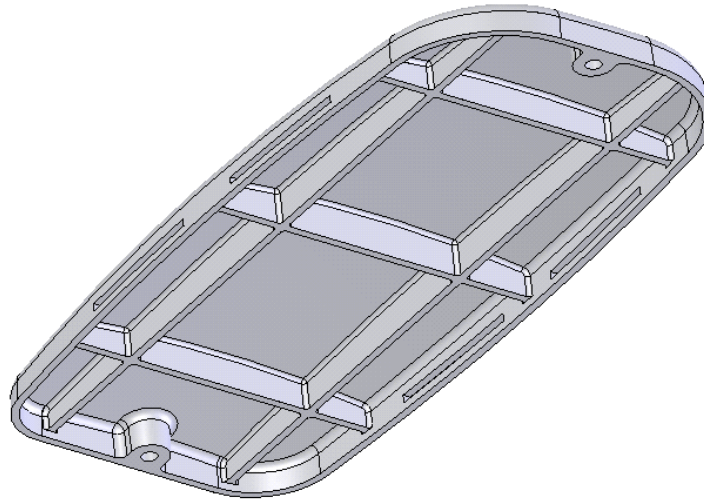

Figure 17-58 Model of the Cover
- Create a new SolidWorks document in the **Part** mode and using the standard modeling tools, create the model of the Cover, refer to Figure 17-58.
- Using the standard modeling tools, create the model of the Cover. The completed model of the Cover is displayed in Figure 17-58.